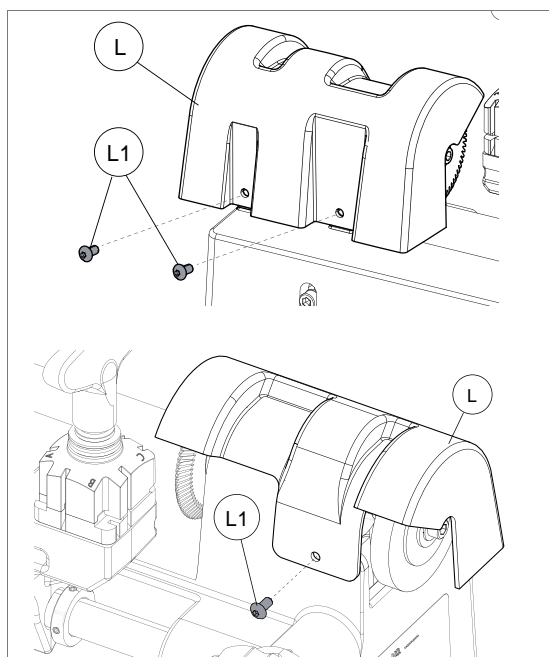

Fig. 28
- 1) Remove the cover (L) by loosening the 3 screws (L1) (Fig. 28).
- 8) Return the machine to its upright position and place the protective cover (L).